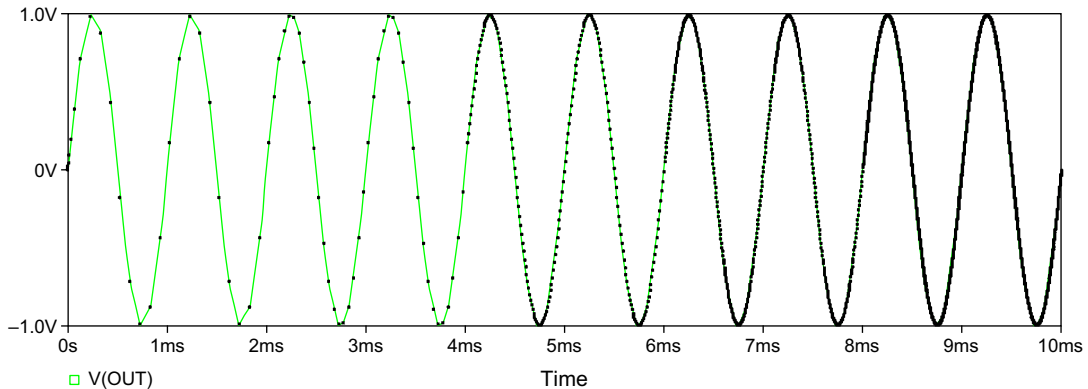

FIGURE 7.12
5. Run the simulation. As the **Mark Data Points** is still on, you should see the resolution of the waveform improve with a decrease in the limit of the maximum step size (Figure 7.12).